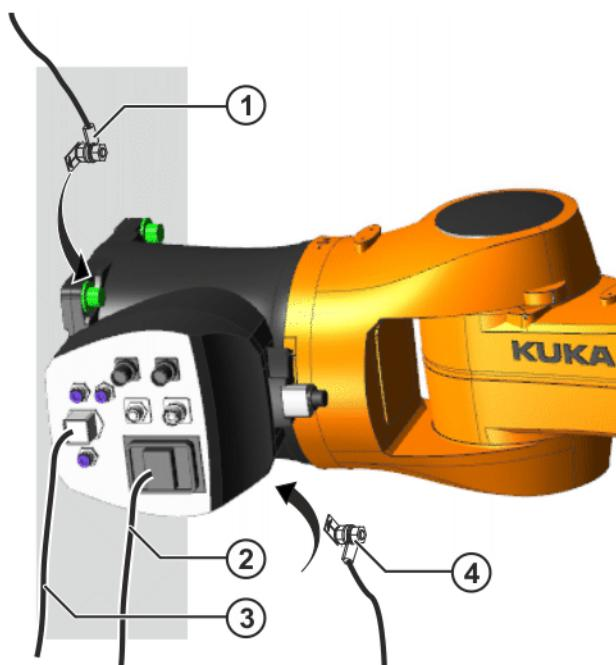

Fig. 8-8: Connecting the supply lines
20. Connect motor cable X30 and data cable X31 (**>>> Fig. 8-8**).